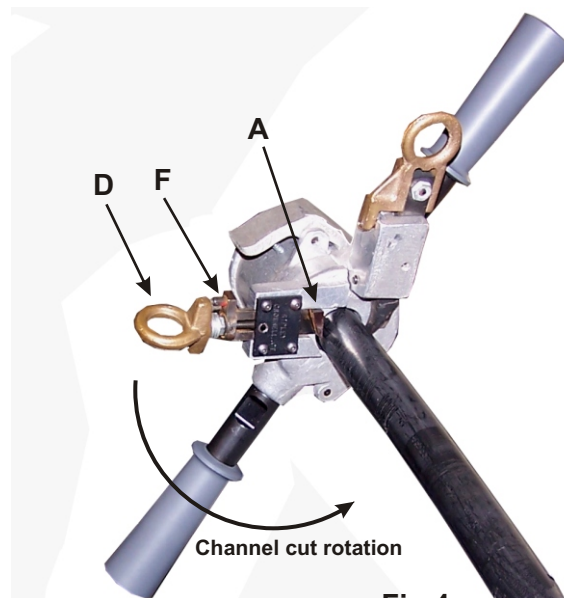
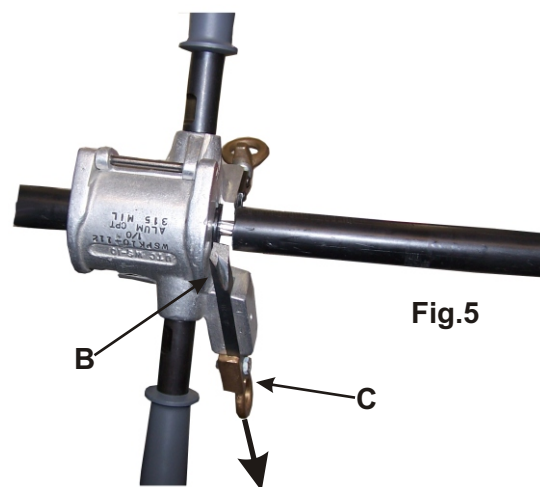

Fig.4
Fig.5
Step 3. Make channel cut to conductor. (Fig. 4) A channel in the covering down to the conductor must first be made. Turn the bronze ring (D) exactly two counter-clockwise turns. This will lower the channel blade (A) about 1/16" (1.59mm). Rotate the tool CCW around the cable. A thin chip of shaved covering will be removed. Continue the above process of removing thin layers of covering. Do not make overly aggressive cuts with the channel blade. The blade can be damaged by an insulation chip that is too thick. Continue until set screw (F) hits the tool body casting. This is a factory setting, but small adjustments can be made in the field, if necessary. The conductor should be exposed when set screw F hits the tool body casting. With the channel cut down to the conductor as in (Fig. 5), retract the channel blade (A) completely out of the bore of the tool.
Step 4. Strip insulation off. (Fig. 5) The stripping blade (B) will now be placed in position for mid span stripping. Pull the stripping blade handle (C) back and observe that the stripping blade drops in position just above the conductor. This blade position is factory set, but small adjustments can be made to ensure the blade depth is precise. Rotate the tool in a clockwise direction to begin the stripping operation. It may be necessary to hold the blade down in position with the blade handle C on the first 1/2 rotation.